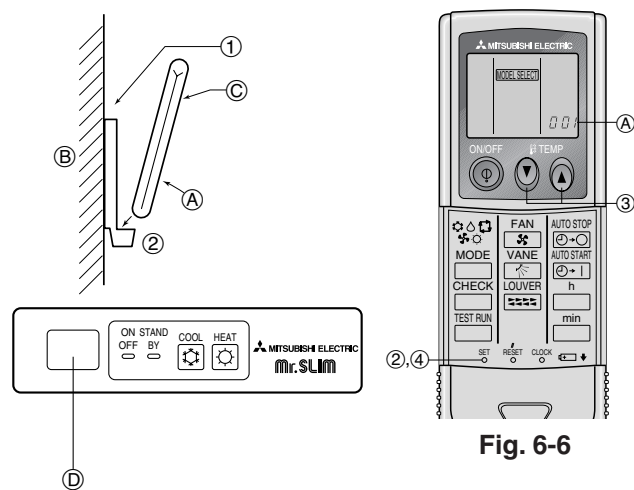

Fig. 6-4
2) Connecting procedures (Fig. 6-4)